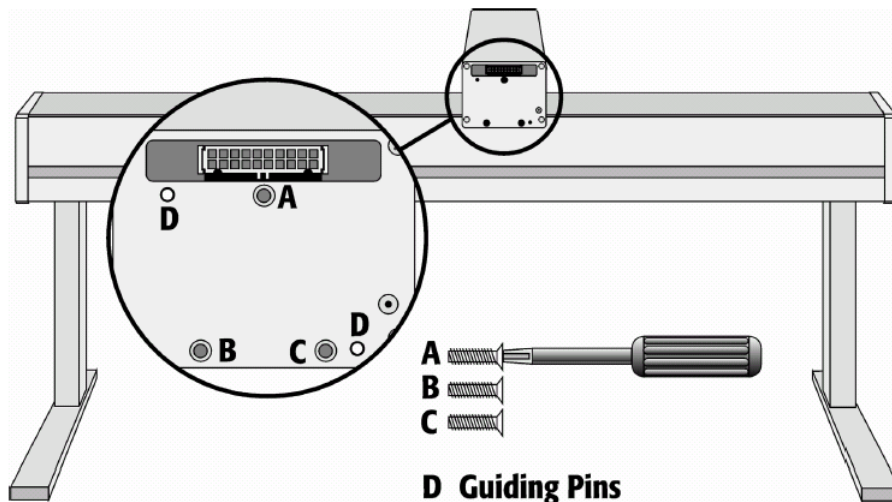

Figure 2-5 Removing Screws from the Injection Unit
1. Remove the three TORX mounting screws A, B, and C from the Y-crossrail (Figure 2-5). These screws will attach the injection unit to the Y-crossrail.